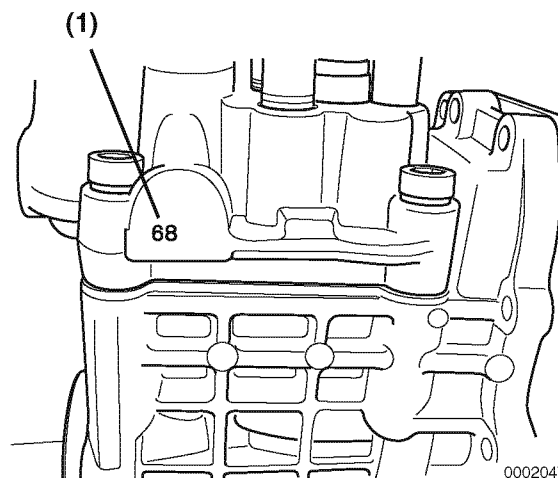

Figure 7-29
- Calculate the difference between the timing index numbers (**Figure 7-29, (1)**) of the fuel injection pump that you removed and the replacement fuel injection pump. See *Calculation Example below*.